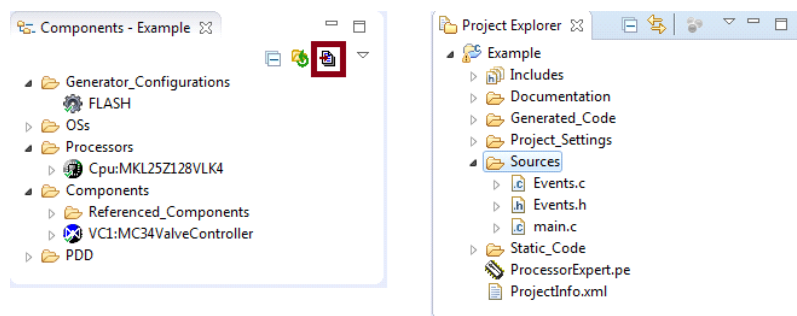

Figure 18. Generating the Source Code and Code Location
2. The driver code for the device is generated into the **Generated_Code** folder in the **Project Explorer** panel. The component only generates the driver code. It does not generate application code. Figure 18 shows the locations of the generated driver source and the application code.